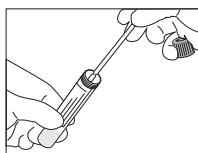

Fig. 1
- Insert the swab into the tube until the breaking point (if present) reaches the level of the opening of the tube (Fig. 1).